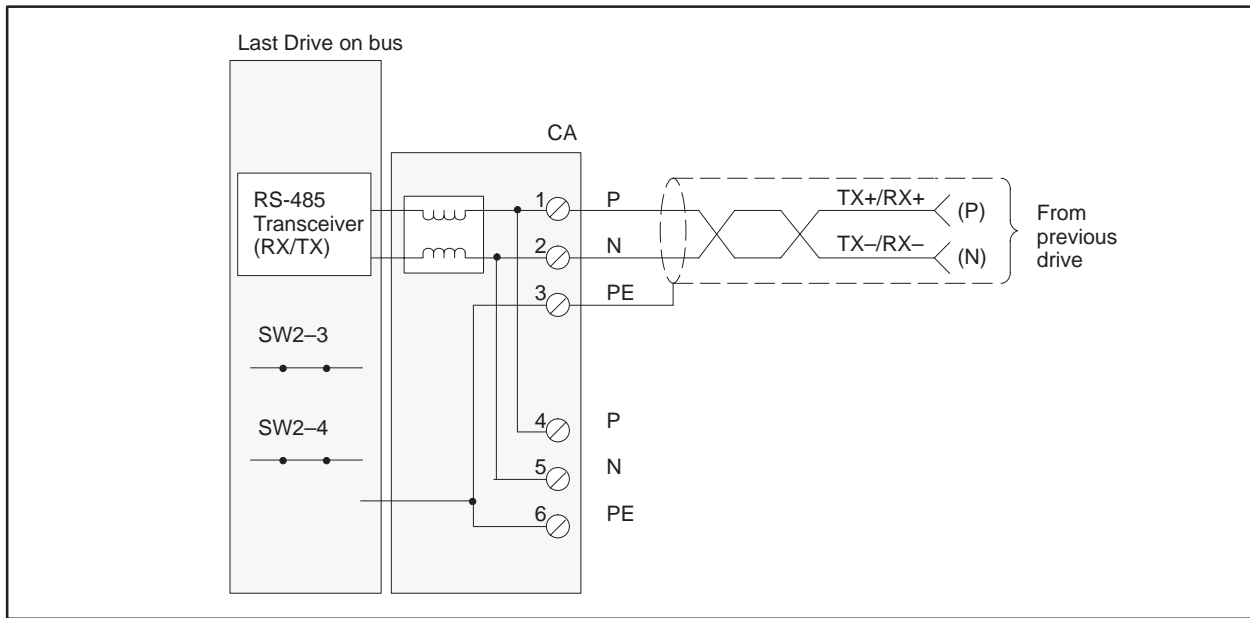

Figure 4-25 6SE30 Wiring: Drive at End of Bus
**SW2-3**      Figure 4-24 and Figure 4-25 show the correct positions for
Figure 4-25 shows the wiring for the 6SE30 PROFIBUS Micromaster Drive for the drive at the end of the bus.